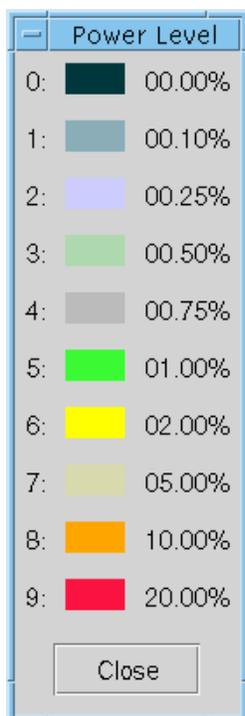

Figure 4-2 Power Level Legend Form
2. Click the *Color* tab to display the *General Preferences – Power* form, as seen in Figure 4-2.